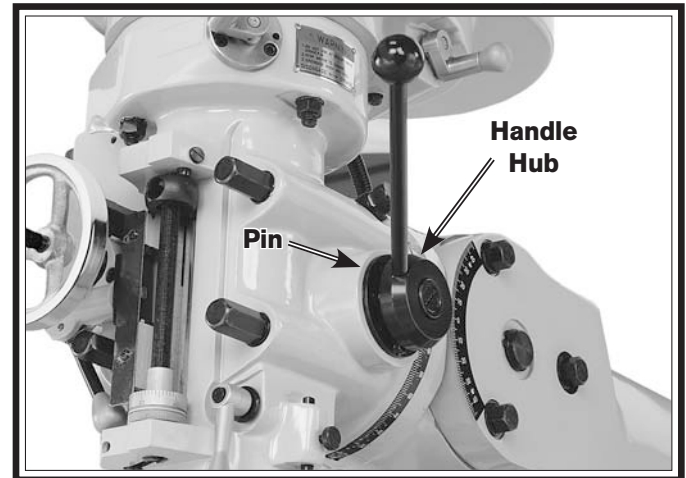

Figure 40. Coarse downfeed handle hub and detent pin.
4. Make sure the pin of the coarse downfeed handle hub is engaged with one of the detents on the downfeed sleeve (see **Figure 40**).